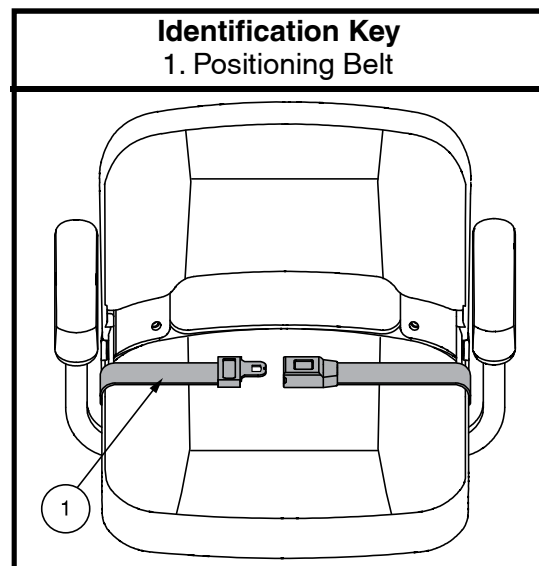

Figure 15. Positioning Belt Adjustment
Your Go Chair may be equipped with a positioning belt that can be adjusted for operator comfort. **See figure 15.** The positioning belt is designed to support the operator so that he/she does not slide down or forward in the seat. The positioning belt is not designed for use as a restraining device.
1. Once seated, insert the metal tab on one side of the belt into the plastic housing on the opposite side until you hear a click. **See figure 15.**